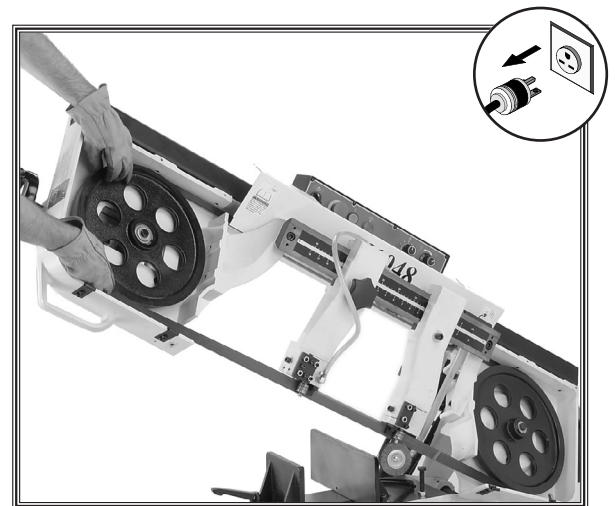

Figure 33. Installing the blade.
7. Install the new blade into front and rear blade guide roller bearings, as shown in **Figure 33**, then around the bottom and top wheels.